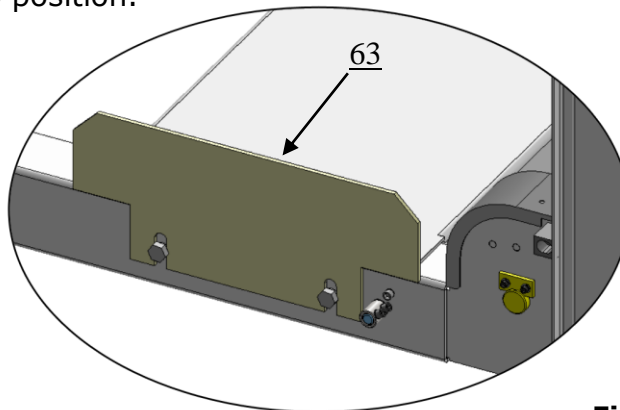

Fig. 30
O. Install Rear wheel stop plates (See Fig. 30)